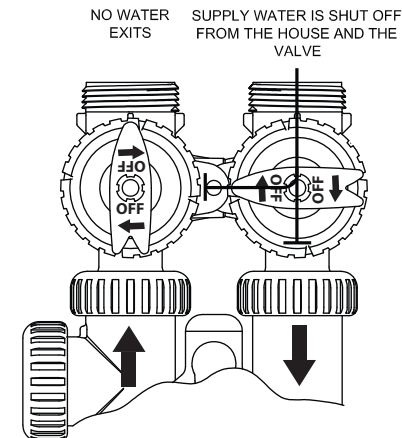

FIGURE 4
**Figure 4. Shut Off Position:** The inlet handle points to the center of the bypass valve and the outlet handle points in the direction of flow, the water is shut off to the plumbing system. If water is available, on the outlet side of the softener, it is an indication of water bypassing the system (i.e. a plumbing connection somewhere in the building bypasses the system).